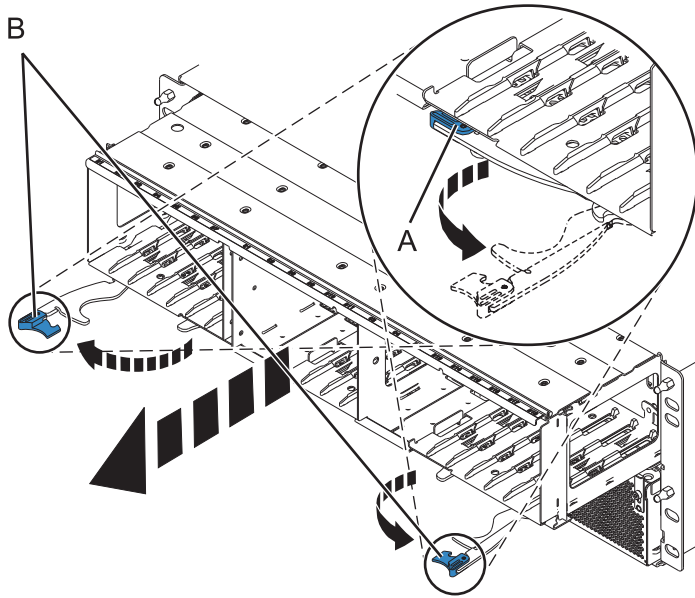

Figure 142. Removing the backplane from the enclosure
5. Remove the backplane as shown in Figure 142 on page 167.